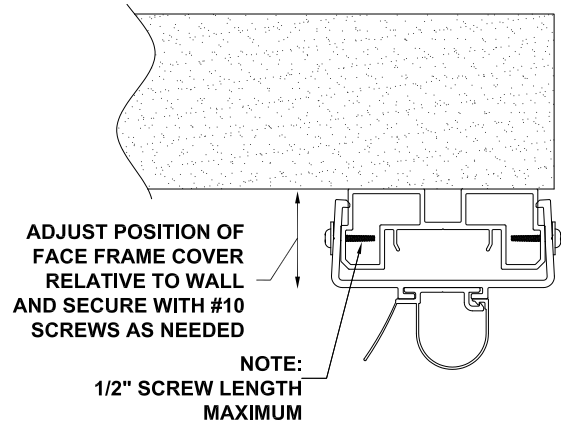

Figure 14: Face Frame Adjustment
1. Check for gaps between door and bulb seals. If gaps exist, adjust the top & side bulb seals (see Figures 14, & 15).
1. Adjust (Figure 14 & 15)